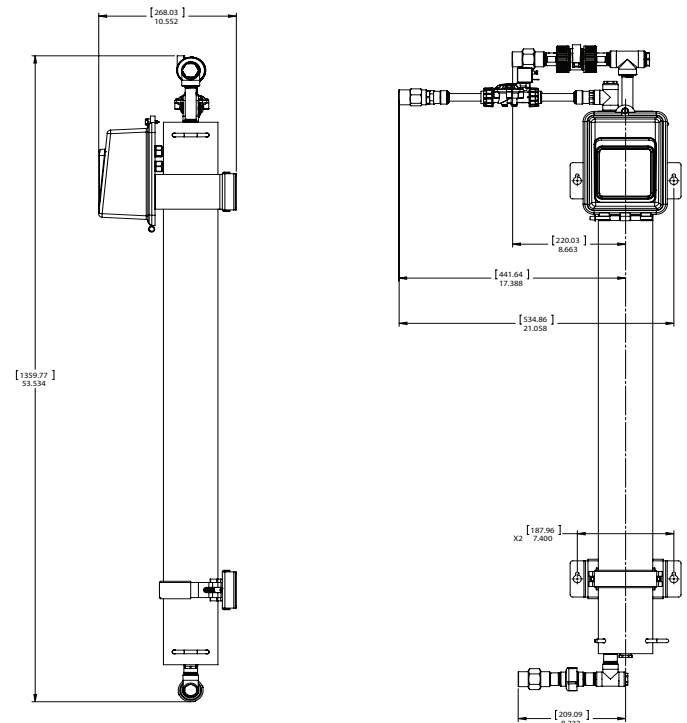

Figure 1 Dimensional Drawing for the FreshPoint Ultrafiltration System
- The FreshPoint system's footprint is 12" x 12" (30 x 30 cm), exclusive of plumbing connections. The FreshPoint system requires 85" (2.1 m) of vertical room to allow for removal of the membrane, unless plumbing accommodations are made (e.g.: unions). See Figure 1 for a typical installation with dimensions.